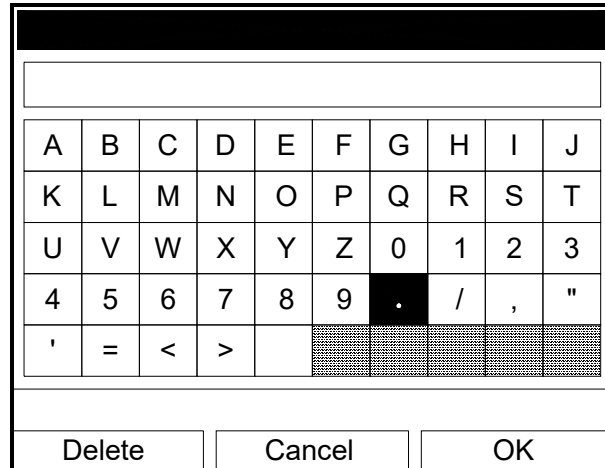

Figure 19: Text Creation Window
- a. Press **[ENTER]** to enter the text box. The text creation window appears, as shown in Figure 19 below.